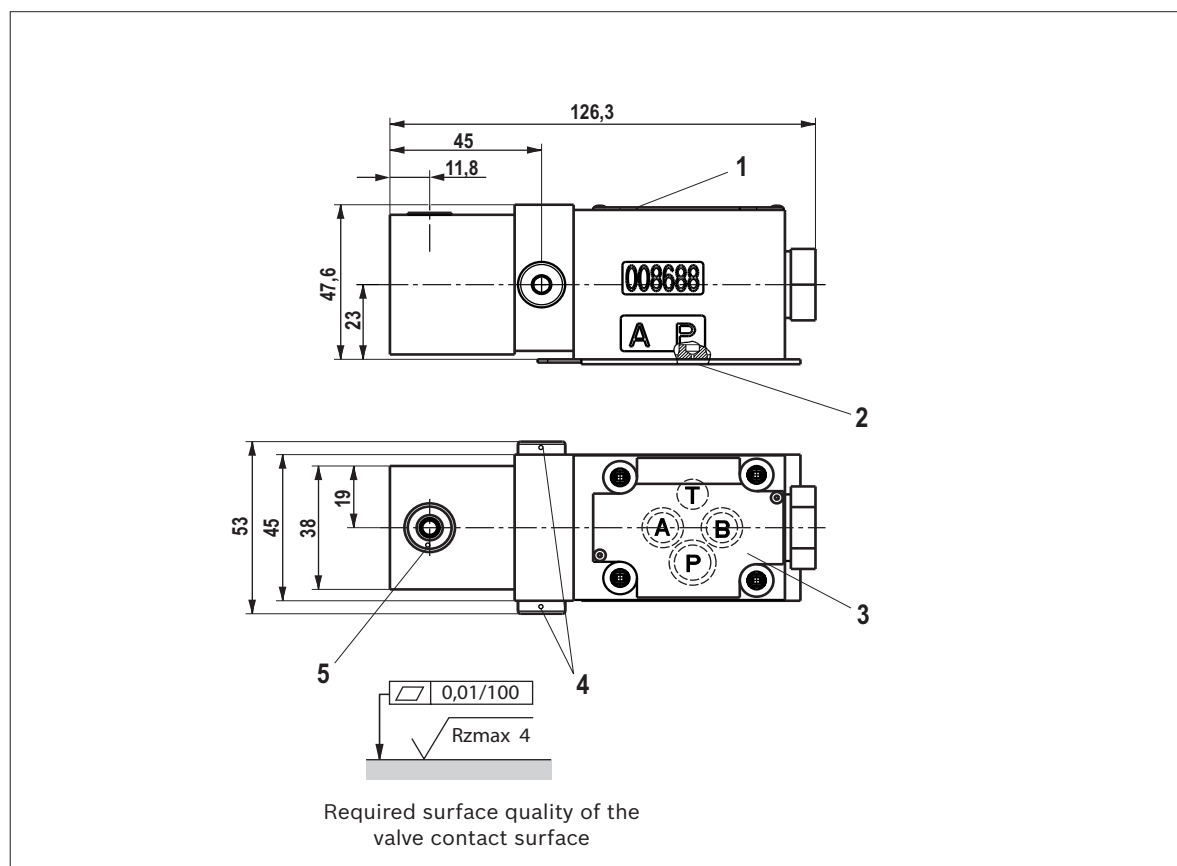

Fig. 6: Unit dimensions type M-SMM... (dimensions are nominal dimensions)
- ▶ Connect air-tight piping at **one of the two** ports for dry air (see fig. 6) (connection thread G1/8, Ma = 12 Nm ± 1.2 Nm) supplying the spring chamber with dry air.